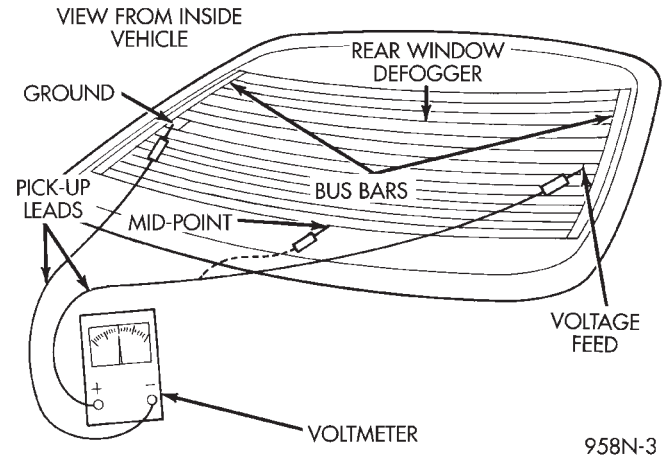

Fig. 3 Grid Line Test
- (1) Turn ignition switch to the ON position.
- (2) Make sure defogger switch is OFF.
- (3) Remove the battery negative remote cable from the terminal. Using an ammeter, connect the ammeter in series between the battery cable and the remote terminal. Turn the Defogger control switch ON, a distinct increase in amperage draw should be noted.
- (4) The rear window defogger operation can be checked by feeling the glass. A distinct difference in temperature between the grid lines and adjacent clear glass can be detected in 3 to 4 minutes of operation.
- (5) Using a DC voltmeter (Fig. 3) contact terminal B with the negative lead, and terminal A with the positive lead. The voltmeter should read 10-14 volts.
- (6) Step 3, Step 4, and Step 5 above will confirm system operation. Indicator light illumination means that there is power available at the output of the relay only, and does not necessarily verify system operation.
- (7) If turning the switch ON produced no distinct current draw on the ammeter the problem should be isolated in the following manner:
- (8) When the above steps have been completed and the system is still inoperative, one or more of the following is defective:
The horizontal grid lines and vertical bus bar lines printed and fired on inside surface of rear window glass (Fig. 3) comprise an electrical parallel circuit. The electrically conductive lines are composed of a silver-ceramic material which when fired on glass becomes bonded to the glass and is highly resistant to abrasion. It is possible, however, that a break may occur in an individual grid line resulting in no current flow through the line. To detect breaks in grid lines the following procedure is required:
- (1) Turn ignition switch to the ON position. Depress the control switch button to ON position. The indicator light should come on.
- (2) Using a DC voltmeter with 0-15 volt range, contact terminal B with negative lead of voltmeter. With positive lead of voltmeter, contact terminal A (Fig. 3). The voltmeter should read 10-14 volts. A lower voltage reading indicates a poor ground connection.
- (3) Connect the negative lead of voltmeter to a good body ground point. The voltage reading should not change.
- (4) Connect negative lead of voltmeter to terminal B and touch each grid line at Mid-Point with Positive lead. A reading of approximately 6 volts indicates a line is good. A reading of 0 volts indicates a break in line between Mid-Point C and terminal A. A reading of 10-14 volts indicates a break between Mid-Point C and terminal B. Move toward break and voltage will change as soon as break is crossed (Fig. 3). Refer to Group 8W, Wiring Diagrams for circuit information.